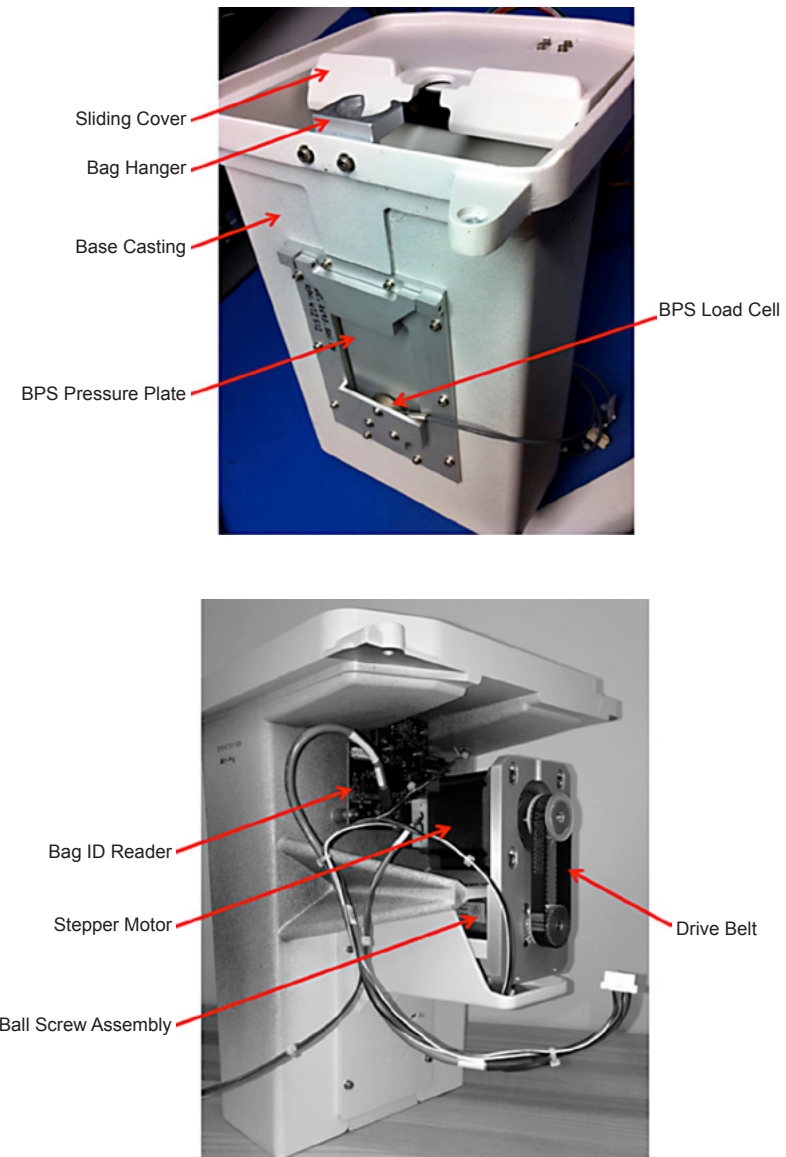

Figure 2-11 Active Irrigation (AI) Module Component Location
7.7.1 The active irrigation module compresses a flexible bag of irrigation solution between a stationary plate and a stepper motor controlled push plate to create and control pressure delivered to the surgical site. Module components are shown in *Figure 2-11*.
- 11.1 The PEL Panel provides visual feedback for the current PEL setting on the system. The primary components of the PEL Panel consist of a PCB that houses the functional electronics, and molded plastic components that embody the assembly. Left and Right PEL Panels are symmetric and are assembled on either side of the console. Figure 2-11 a block diagram of the PEL interface with the system.
- 12.1 The Remote Control is the secondary user interface for system. The Primary components of the Remote Control Assembly are a PCB that houses the functional electronics, molded enclosures that embody the assembly, and a battery door that provides user access to the batteries. The Remote Control is powered by two AA batteries that are intended to provide power for a minimum of 350 procedures of typical remote control usage. Figure 2-11 a block diagram of the Remote Control interface with the system.